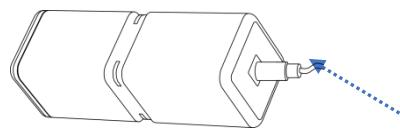

Figure 10B
- ii. Insert the 3.5mm jack of Socket for Remote Water Detection Probe tightly. "Figure 10B"